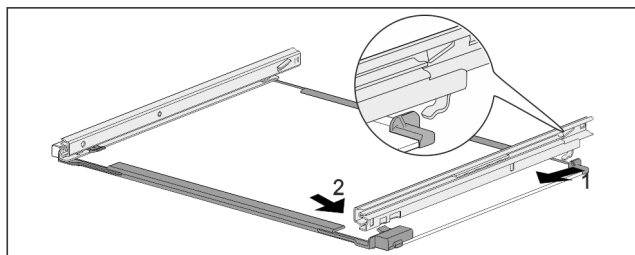

Fig. 178 Glass shelf with rails
- Hook in rail at the back. Fig. 178 (1)
- Hook in rail at the front. Fig. 178 (2)